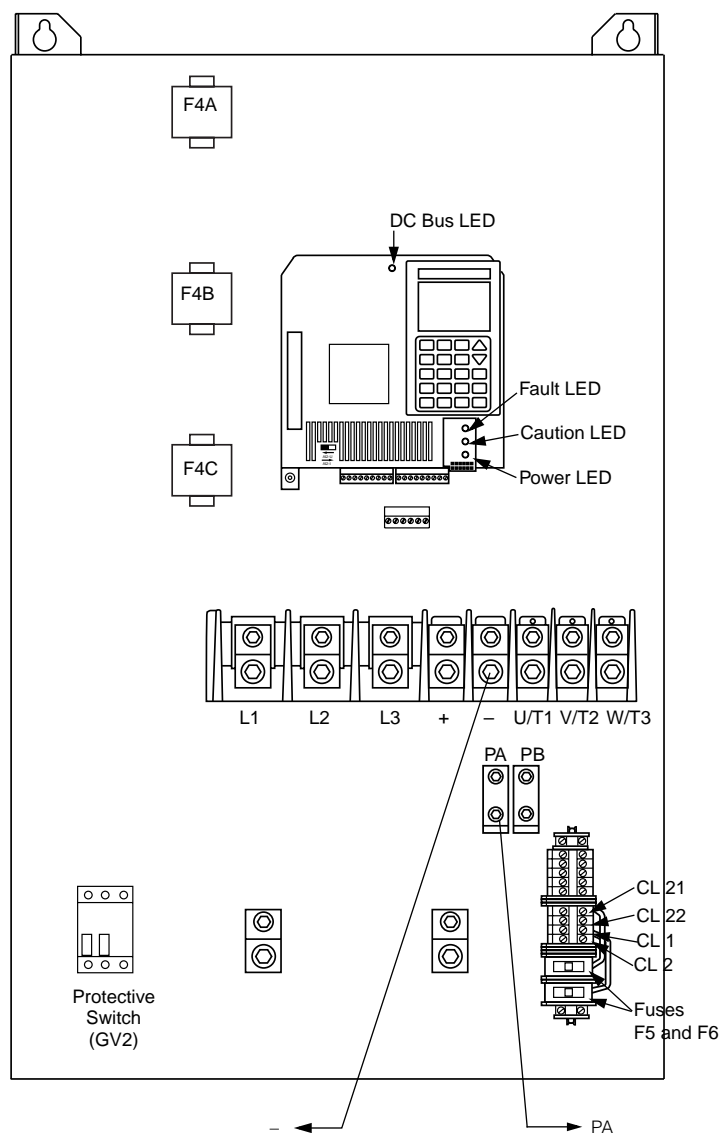

Figure 3.36: F4A, F4B, F4C Bus Fuse Test Procedure: ATV66C10N4 to C19N4 (Designs B and C)
4. Set a voltmeter to the 1000 VDC scale. Measure the bus capacitor voltage between the PA and (-) terminals to verify that the DC voltage is less than 10 V. **Do not short across capacitor terminals with voltage present.** See Figure 3.36 or 3.37.